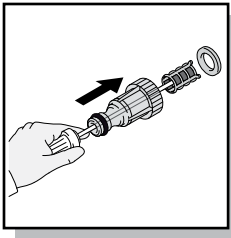

Fig. 18
- The screen inside the clear adapter should be cleaned periodically. Insert a pen or pencil in small hole at the end of the adapter. The screen filter will slide out (Fig. 18). Rinse it with clean water, and then place it back in the adapter.